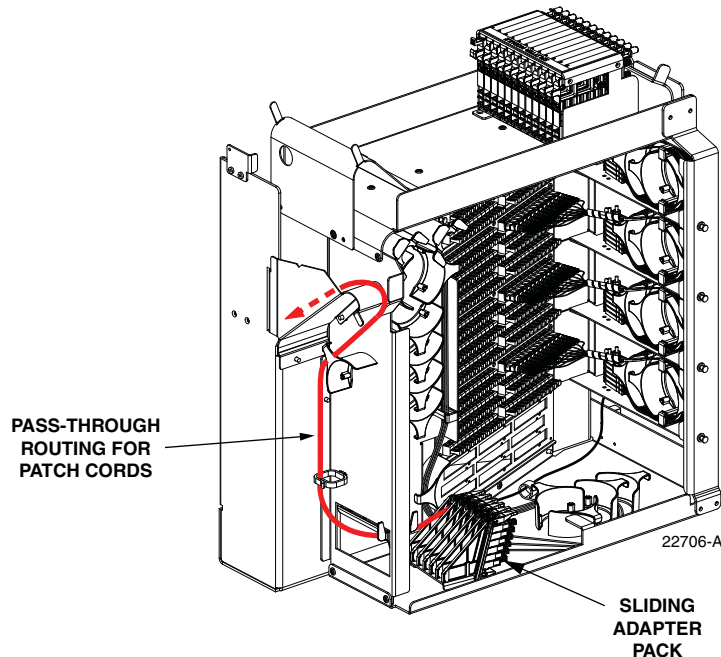

Figure 45. Routing Pass-Through Patch Cord From Sliding Adapter Pack
8. Route the pass-through patch cord to the front side of the swing-out assembly as shown in Figure 45.